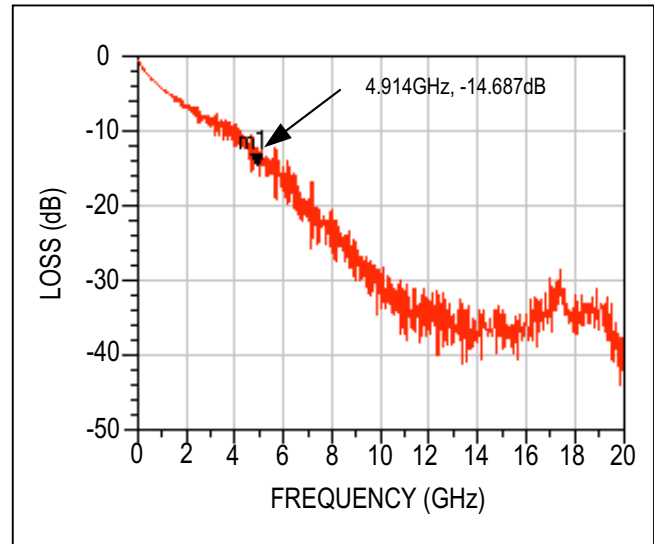

Figure 8. Channel Loss Curve (30in Nelco)
- 30in Nelco Traces = -14.7dB loss at 4.914GHz (see Figure 8)